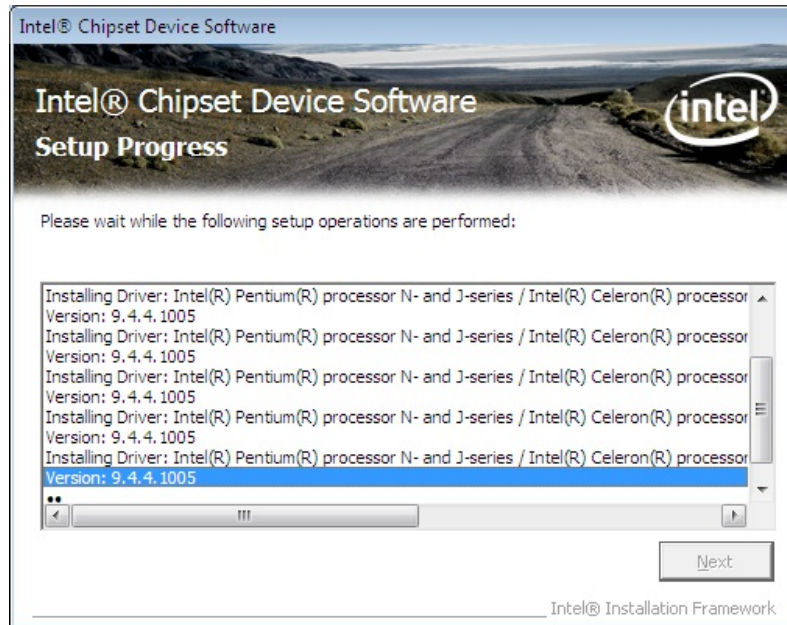

Figure 6-6: Chipset Driver Setup Operations
Step 9: Setup Operations are performed as shown in Figure 6-6.